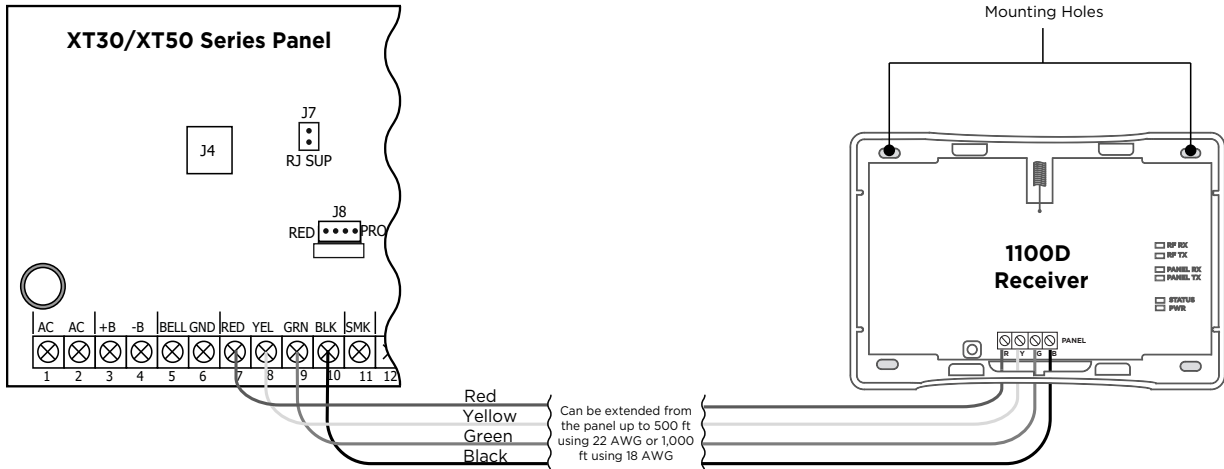

Figure 2: Wiring the 1100D to the Panel
2. Connect the other end of the wires to the terminals 7, 8, 9, and 10 on the panel. See Figure 2
3. Use the included #6 screws to secure the 1100D to the surface. See Figure 2 for mounting hole locations.
The six labeled LEDs on the 1100D PCB display wireless receiver operation and activity. See Figure 2 for LED locations and Table 1 for LED indications.